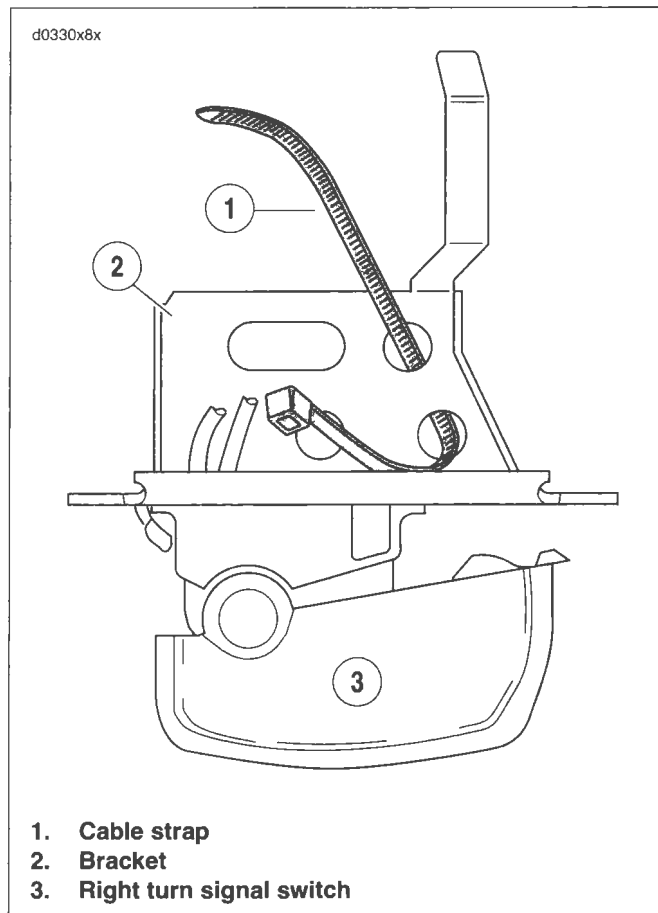

Figure 8-105. Insert Cable Strap in Switch Bracket
1. See Figure 8-105. Insert tapered end of **new** 7.0 in. (177.8 mm) cable strap (1) into round hole in turn signal switch bracket (2) and then feed back through using the adjacent hole. Reserve the oblong hole for the bracket screw.